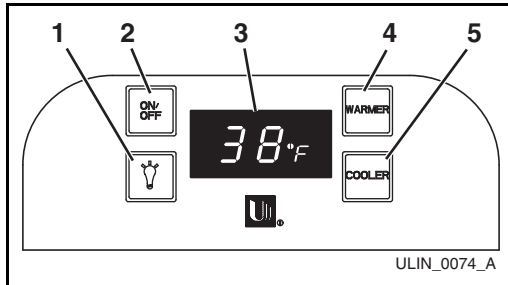

Figure 7
1. Press and release either the WARMER (Figure 7, 4) or COOLER (Figure 7, 5) button to put the controller in the SET TEMPERATURE mode. The °F (or °C) symbol will begin to flash.
3. The change will be set five seconds after adjusting the temperature, and the new set-point will be displayed (Figure 7, 3).